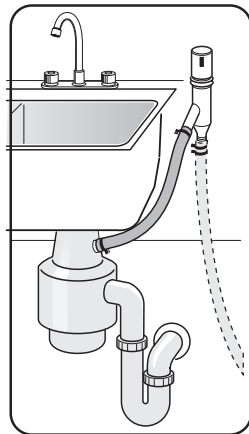

Figure 25
- 4 To a disposer dishwasher drain connection through an air gap, as shown on **Figure 25**.